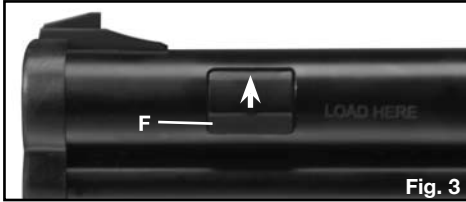

Fig. 3
- While keeping your hand away from the front of the muzzle open the BB loading port door. (Fig. 3).